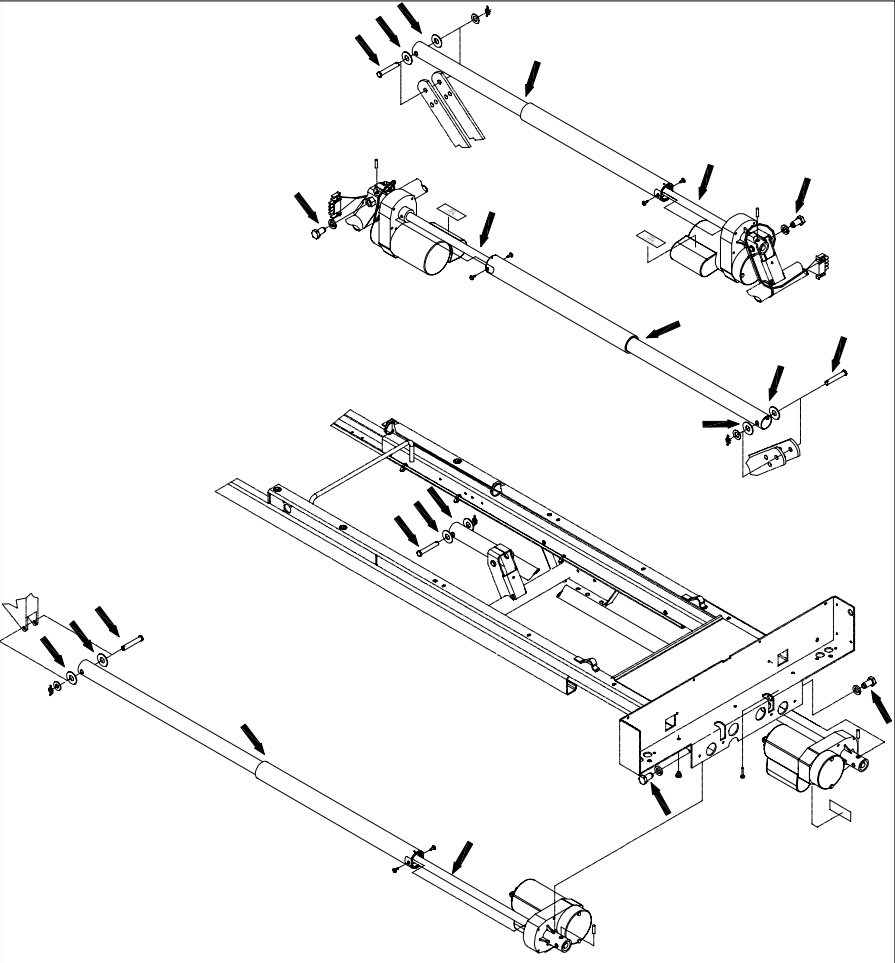

Figure 2.2C
- \_\_\_ The two Hi-Lo and the head section actuator tubes (see fig. 2.2C, page 11) to facilitate their sliding into their metal support tubes. Bring the bed and the head section to full up before applying grease on the actuator tubes.
- \_\_\_ The four actuator screws (see fig. 2.2C, page 11). Note that the foot actuator screw does not appear on figure 2.2C.
- \_\_\_ The clevis pins and nylon washers linking the actuator tubes to the head and thigh section lever arms and the two Hi-Lo lever arms (see fig. 2.2C, page 11).
- \_\_\_ The actuator bolt that holds each actuator to its bracket, as well as the inner side of the four brackets, including the pivot pin (see fig. 2.2C, page 11).